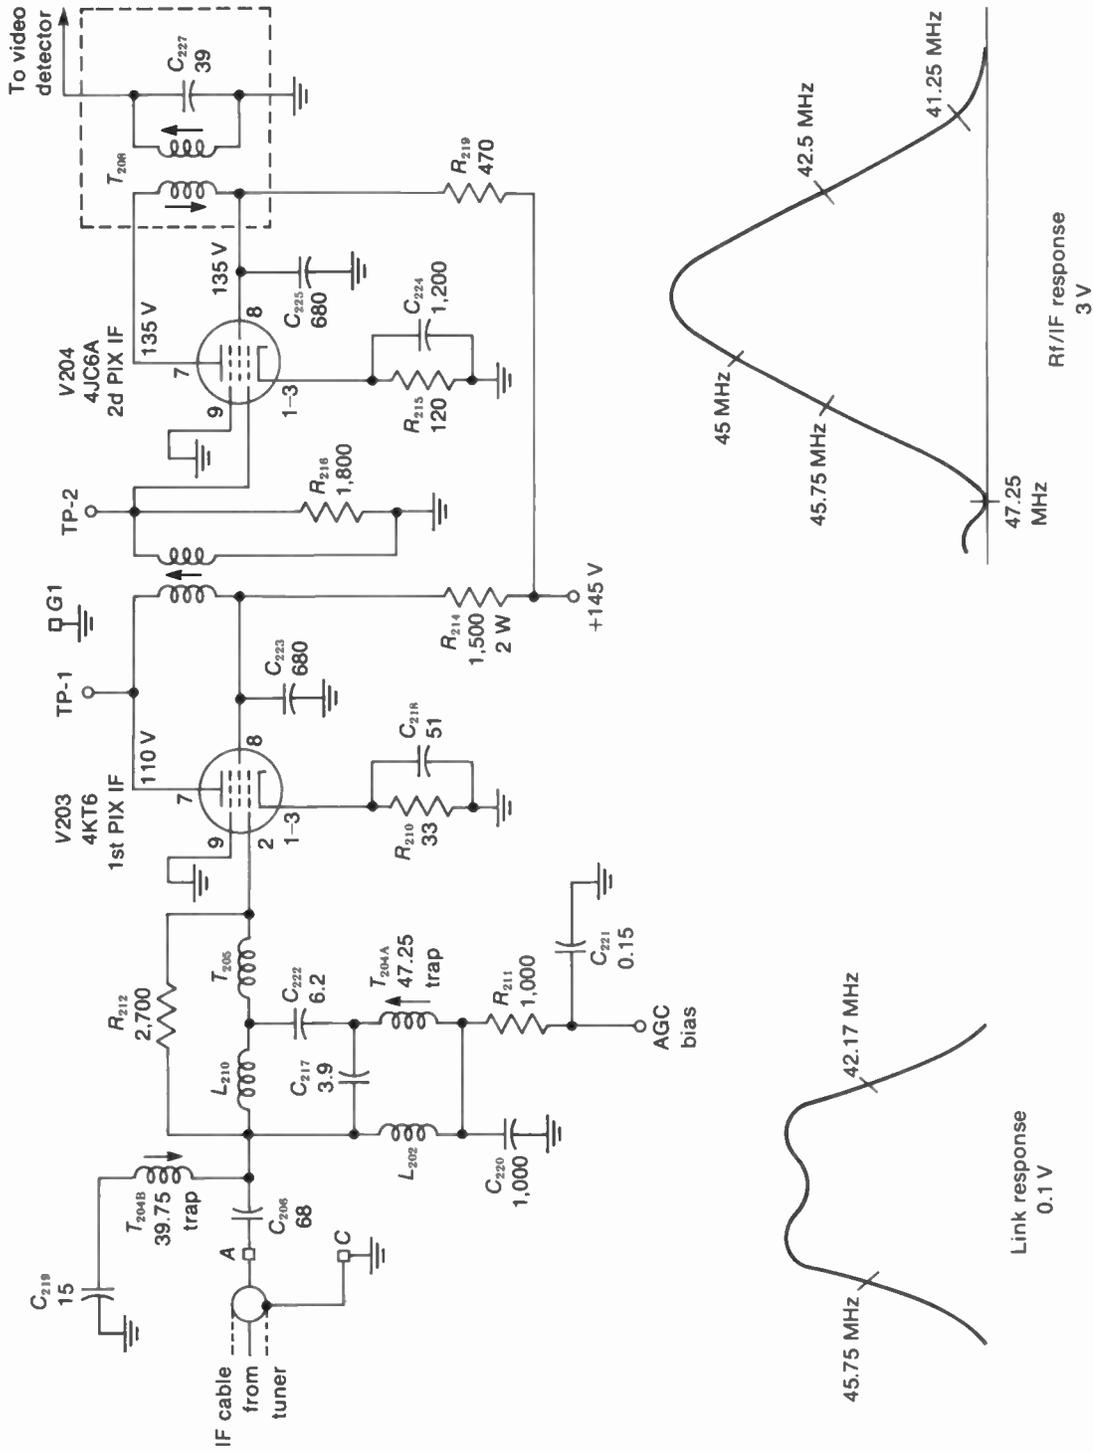

FIGURE 23-18 PICTURE IF AMPLIFIER WITH TWO PENTODE TUBES. R VALUES IN  $\Omega$ ; C MORE THAN 1 pF. (RCA KCS 179 CHASSIS)
**Two-tube IF amplifier for monochrome receiver.** Starting at the left in Fig. 23-18, the IF cable from the VHF tuner supplies IF signal to the first IF stage. This link couples IF signal from the mixer plate circuit on the tuner to the IF transformer  $T_{205}$ . Note the wave traps at 39.75 MHz for the upper adjacent picture carrier and 47.25 MHz for the lower adjacent sound. The AGC bias line feeds the first IF stage and the rf amplifier in the tuner. The first IF amplifier is coupled to the second IF stage by  $T_{207}$ . Only one adjustment is provided in this IF transformer to vary its coupling. The plate circuit of the second IF stage has the double-tuned transformer  $T_{208}$  to couple the IF signal into the video detector.
The typical overall IF response curve for a monochrome receiver is shown in Fig. 23-18. Here the main markers are at 50 percent response for 45.75 MHz and 5 to 10 percent response for the sound at 41.25 MHz. The response is low at 42.17 MHz, to eliminate interference from the color signal in monochrome receivers. For color receivers, the typical overall IF response curve is shown in Fig. 23-23a. Here the main markers are at 50 percent response for the picture IF carrier at 45.75 MHz and 50 percent for the color subcarrier at 42.17 MHz, with 5 to 10 percent response for the sound at 41.25 MHz. Some examples of misalignment are shown in Fig. 23-23b, c, and d.